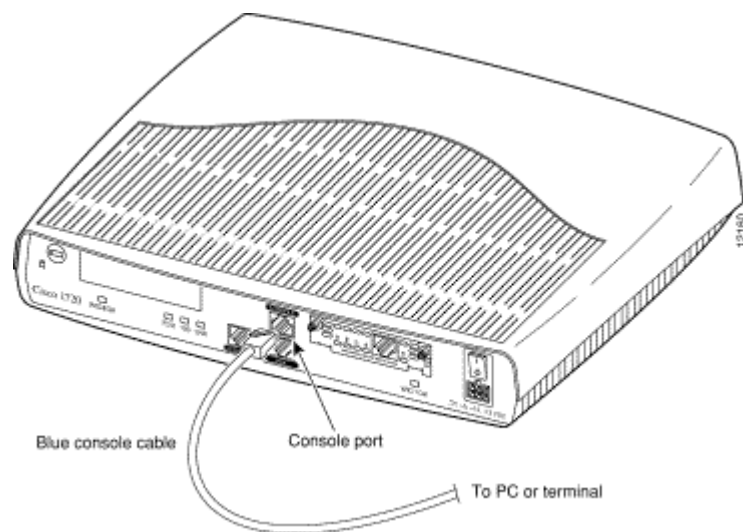

Figure 4
Step 1 Connect one end of the light-blue console cable to the light-blue CONSOLE port of the router (Figure 4).